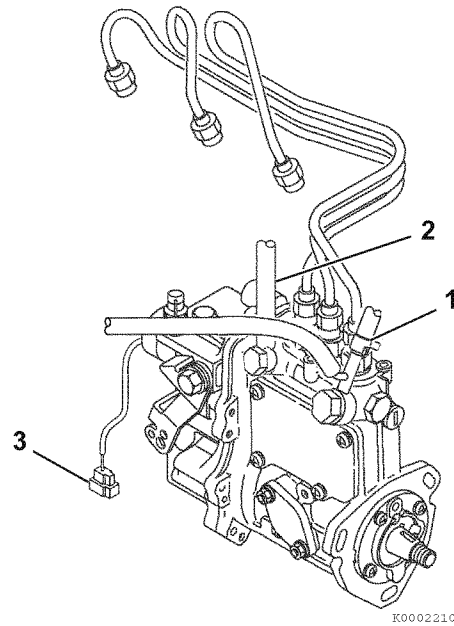

Figure 7-13
7. Disconnect the fuel return lines from the fitting on the fuel injection pump (Figure 7-13, (1)). Plug the open ends of the lines to minimize leakage and prevent contamination.
8. Remove the fuel supply line (Figure 7-13, (2)) from the fitting on the fuel injection pump.
11. Separate the stop solenoid wiring connector (Figure 7-13, (3)).